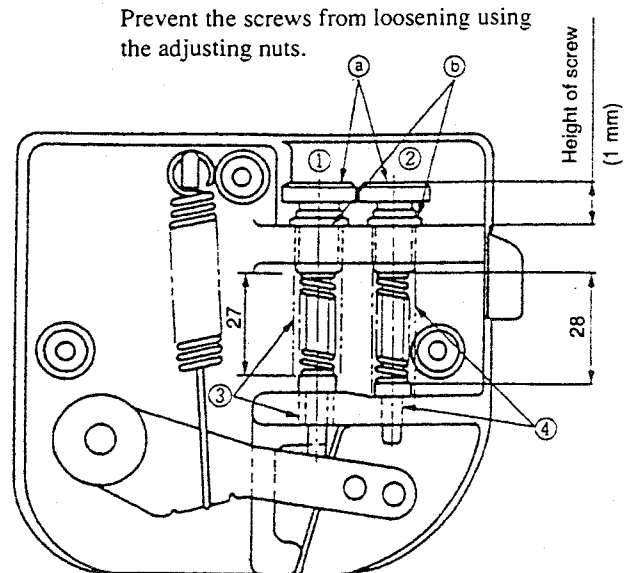

Fig. 57 Pedal sensor B asm.
- b. Attach the spring shaft B, rear part depressing spring B, rear part depressing pressure adjusting screw and rear part depressing pressure adjusting nut to side (2), shown in Fig. 57, same as in the case of side (1).
③ Adjusting the pressure required to depress the back part of the pedal
Adjust the height of the spring which has been changed for the knee-operated auto-lifter (PFL) type. Adjust the height of the spring on side (1), in Fig. 57, to 27 mm and that of the spring on side (2), in Fig. 57, to 28 mm using heel-depress pressure adjusting screws (a). After the spring height has been adjusted, tighten heel-depress pressure adjusting nuts (b) to prevent adjusting screws (a) from loosening.